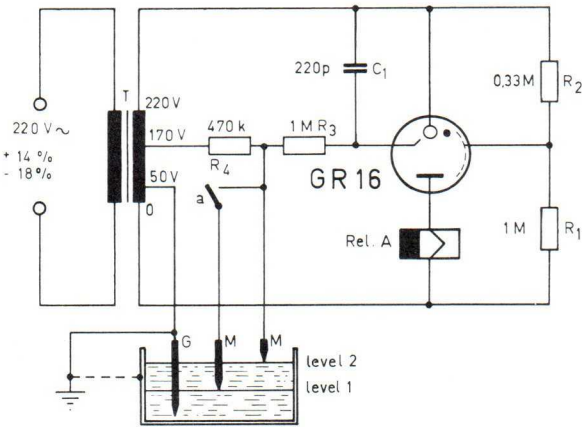

Fig. 3
3.2.1 Baissed-off circuit, Fig. 3
The circuit operates in a manner exactly opposite to that of Fig. 3.